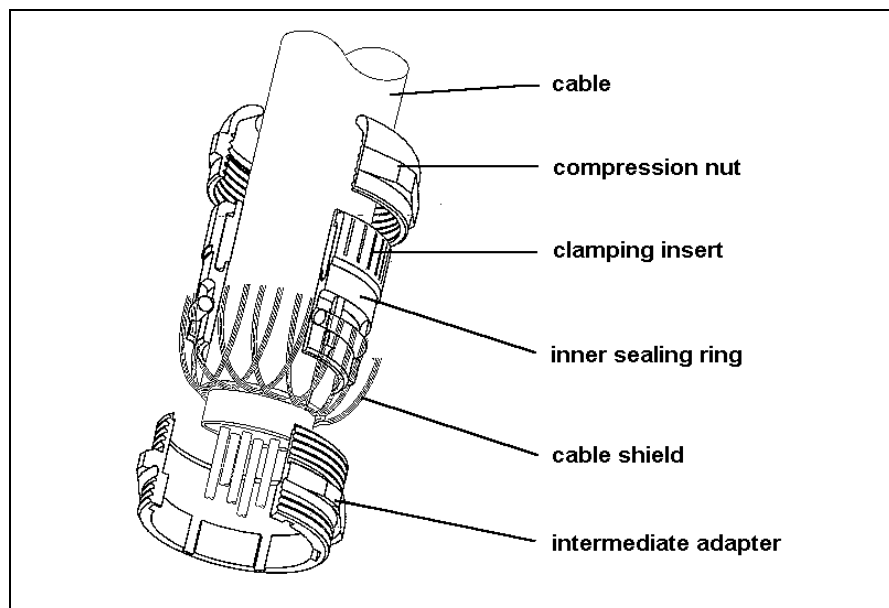

Figure 8
- The screens of all the other cables must be connected with the corresponding cable gland connection (cf. fig 8).